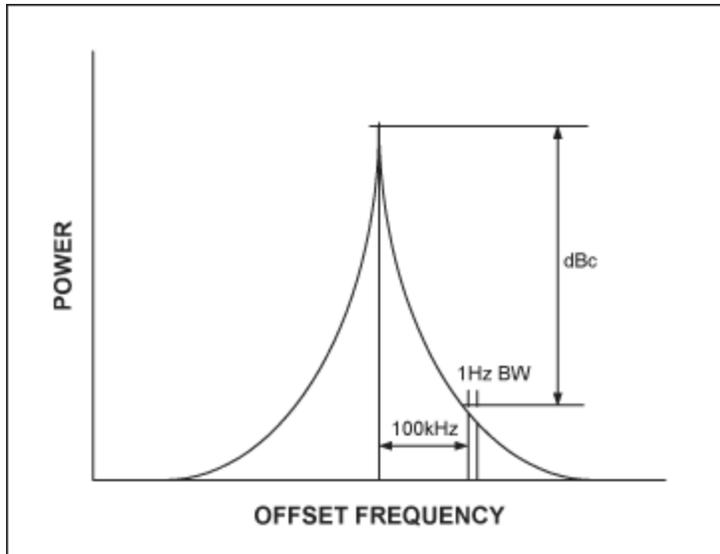

Figure 5. Output spectrum of an oscillator. The skirt is due to the phase noise in the oscillator.
**Phase Noise** is a figure-of-merit for oscillator spectral purity. Ideally, an oscillator's output is a single frequency represented by a single vertical line. In reality, there are noises in the oscillator such that the output is not just a single line, but a "skirt" of noises near the carrier (fundamental) frequency. These noises are referred to as phase noise. Phase noise is usually specified as the ratio of noise power in 1Hz bandwidth at an offset frequency away from the carrier to the carrier power. For example, a phase noise specification of -100dBc/Hz at 100kHz offset means the noise power in 1Hz bandwidth at 100kHz away from the carrier is 100dB below the carrier power (**Figure 5**).